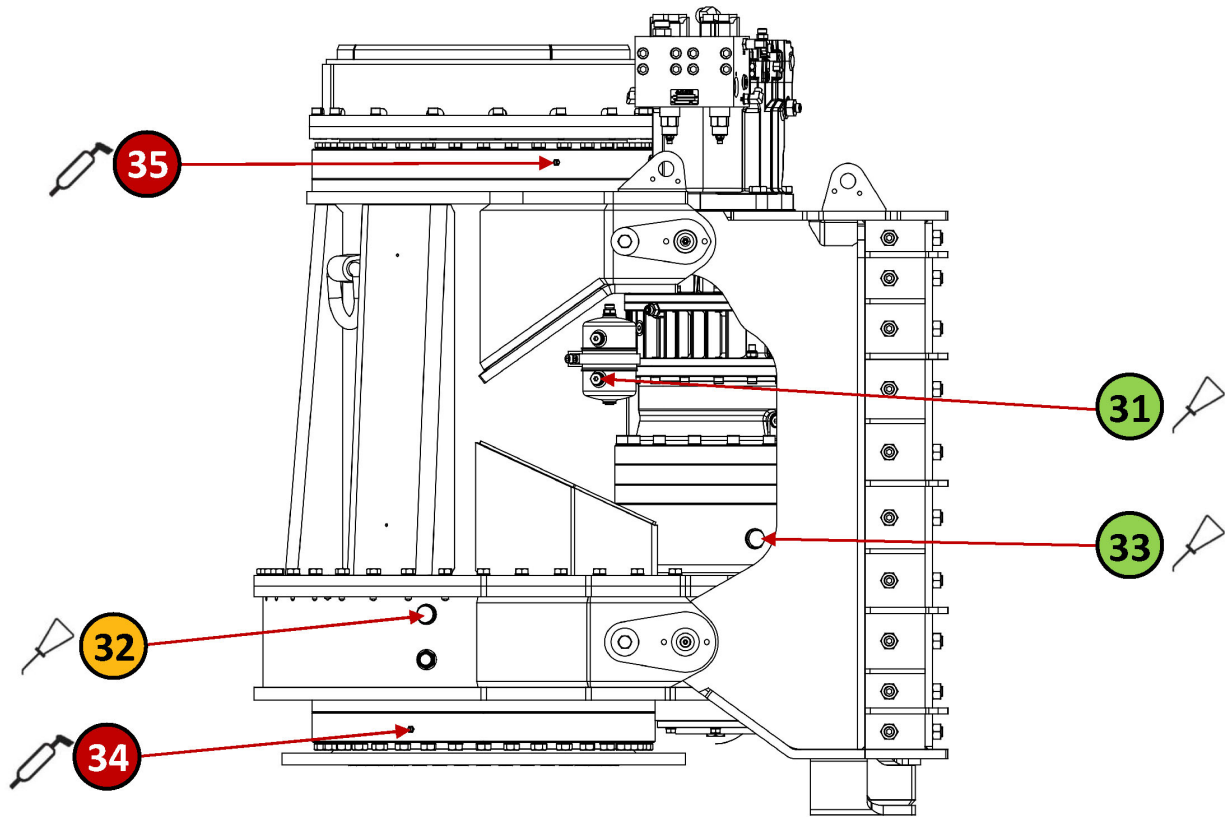

Figure 10-11
*** The Rotary Pinion Bearing is lubricated through the indicated plug (item 33, Figure 10-11), following the procedure: